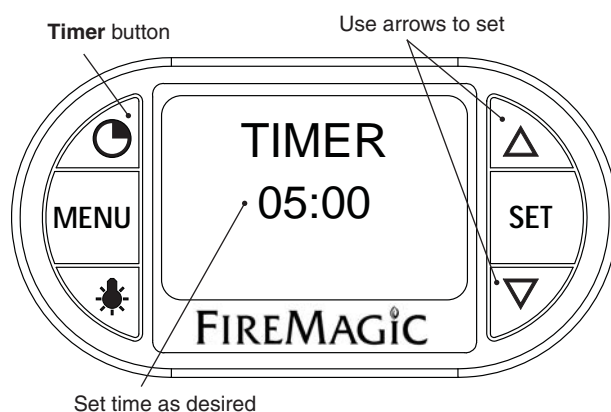

Fig. 26-4 Timer screen
1. Press the timer button. Use the arrows to set the desired amount of time (see Fig. 26-4.)